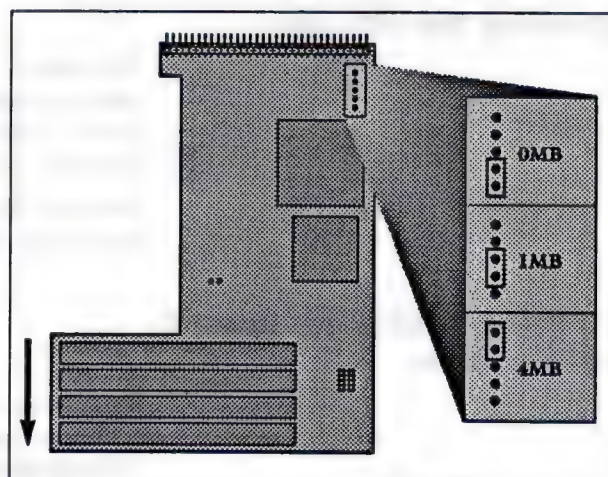

Figure 8: The memory size jumpers
3. Set the memory size jumper to correspond to the amount of memory you are installing as shown in Figure 8.